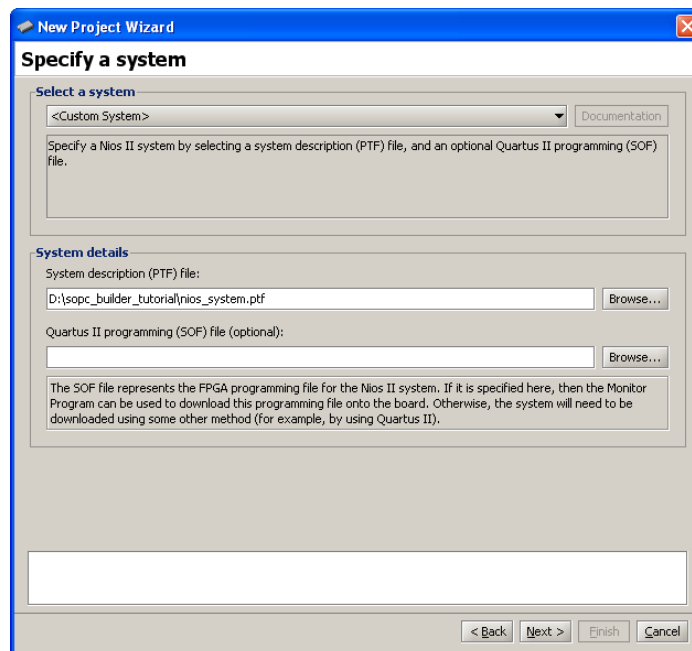

Figure 23. The System Specification window.
2. Enter *lights* as the Project name and click **Next >**, leading to Figure 23.